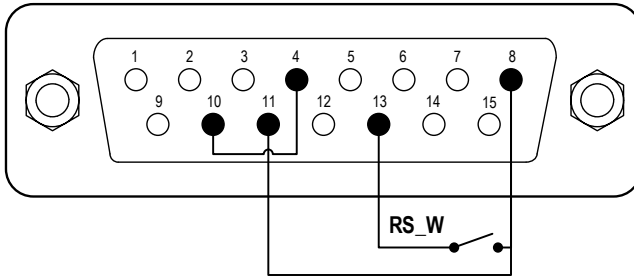
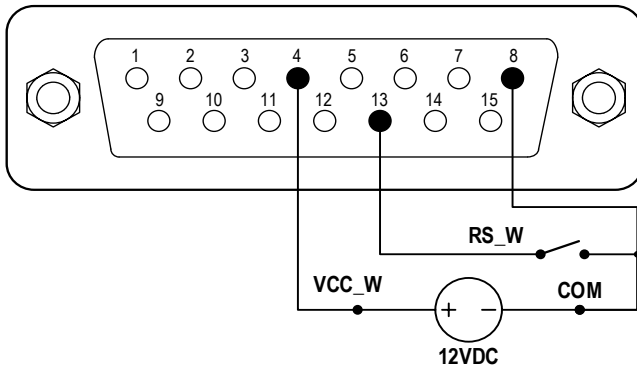

Figure 19. Footswitch with internal 12V Power Source
Figure 20. Footswitch with External 12V Power Source
- 1) Switch the power off. Wire the DB15 connector as shown on Figure 19 or Figure 20, and connect it to the DB15 port on the rear